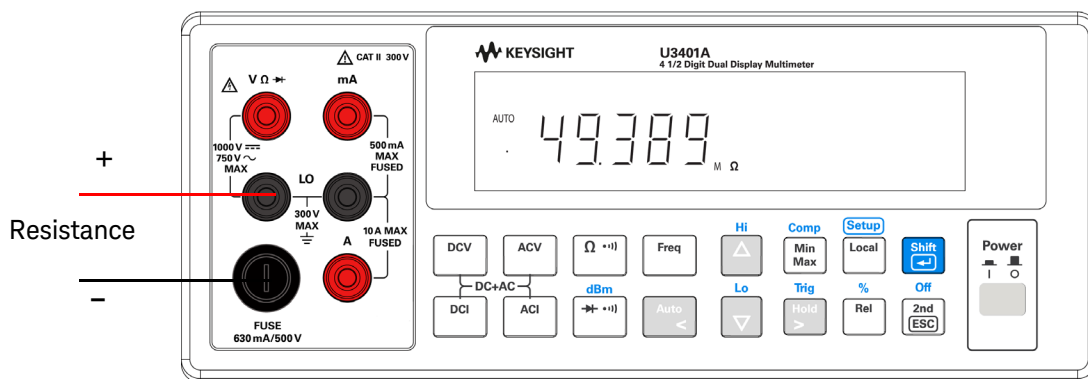

Figure 3-4 Connection terminal when measuring Resistance
- 1 Connect a resistor under test to **VΩ** and LO input terminals as shown in **Figure 3-4**.